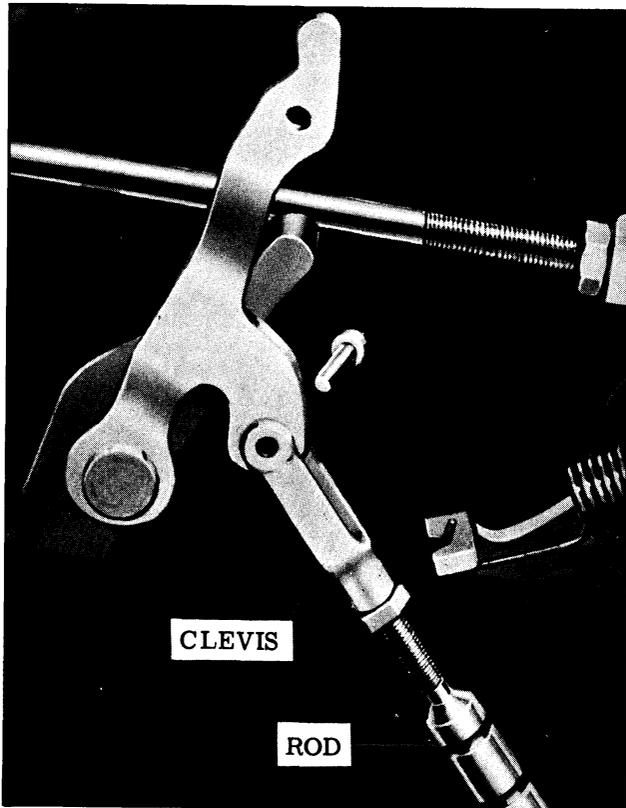

Fig. 3-159 Adjusting T.V. Rod
2. With bellcrank held against the stop and T.V. rod pushed back against the stop, adjust clevis so that pin will enter freely into holes in clevis and bellcrank. (See Fig. 3-159)